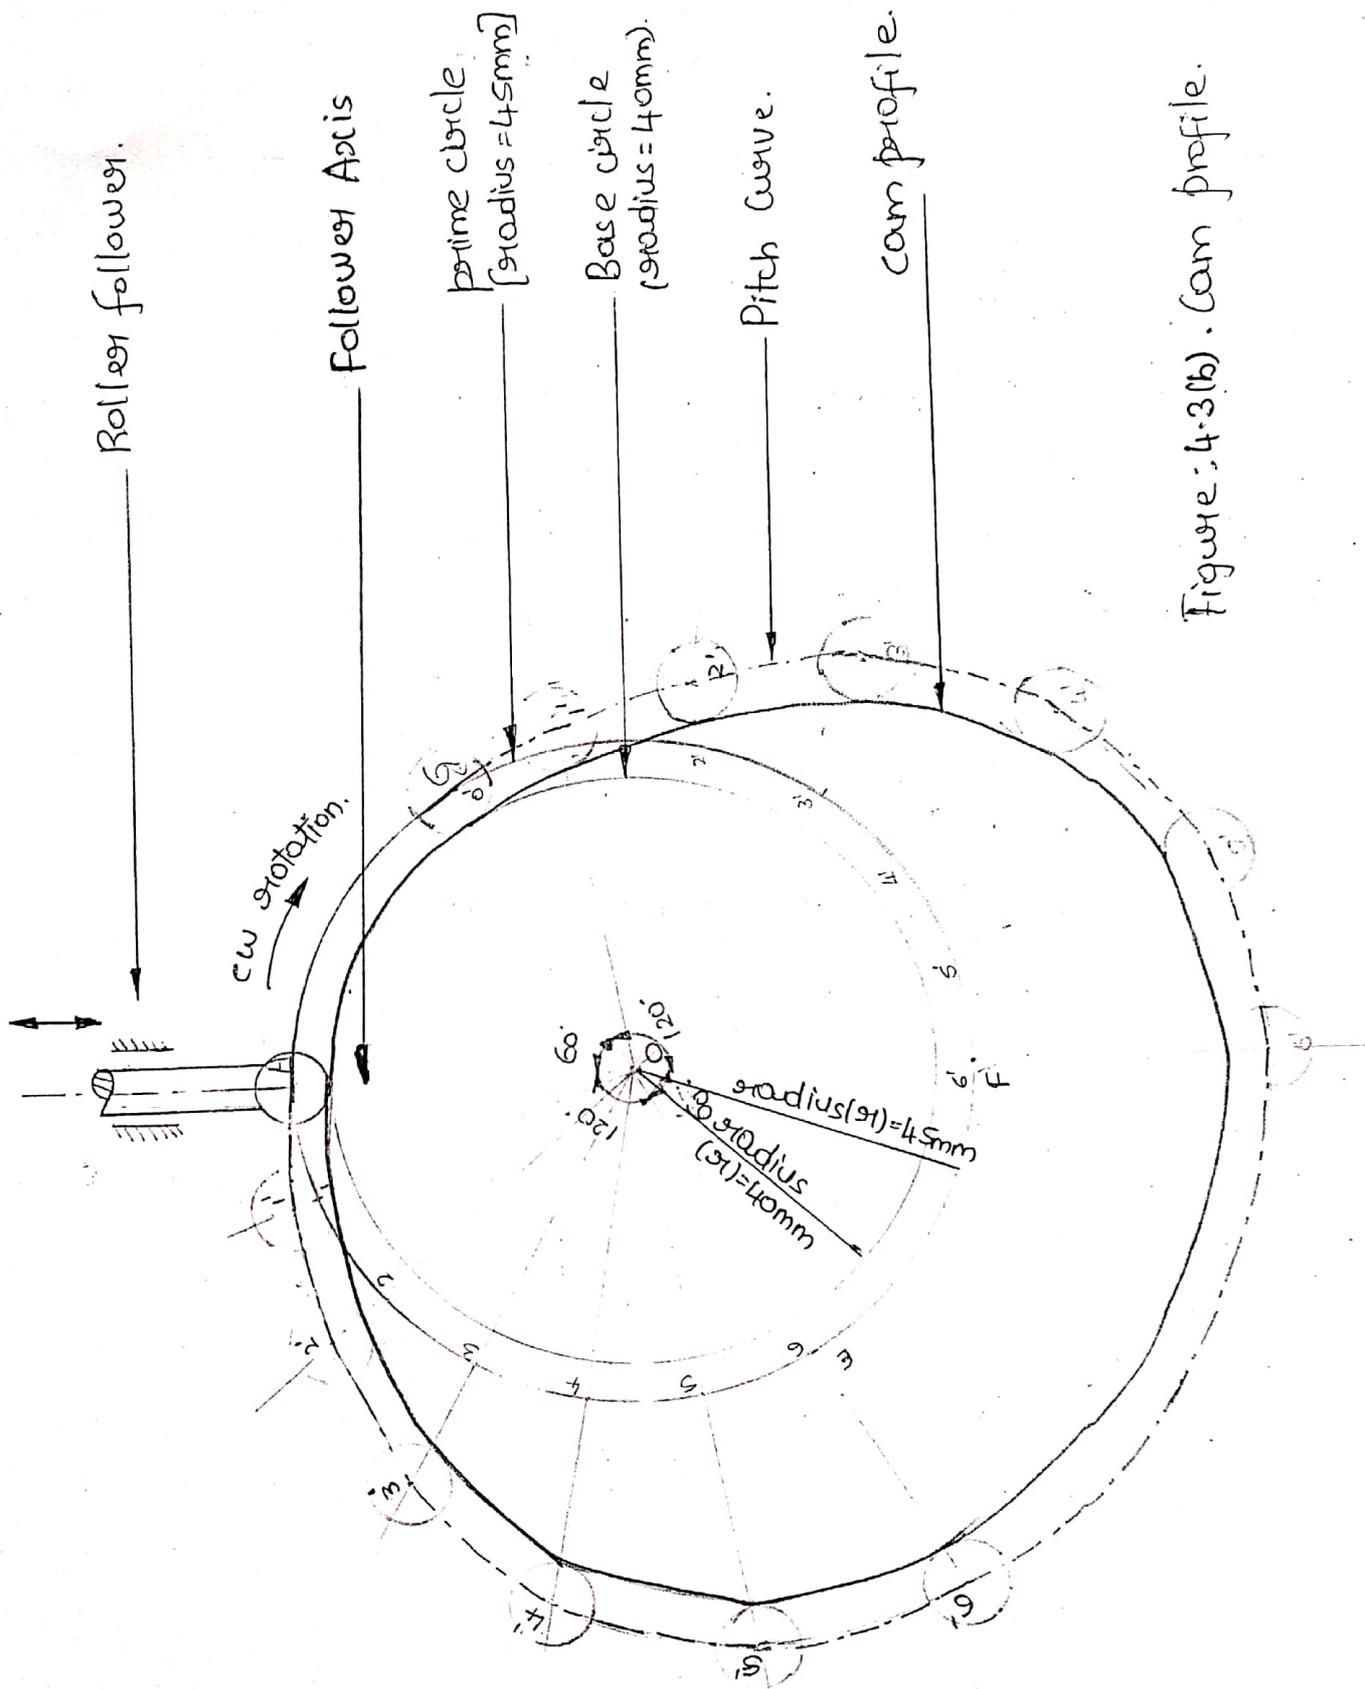

Figure: 4.3(b). Cam profile.
The displacement diagram is drawn as per the procedure given below: Refer fig 4.3(a).
- v) Complete the displacement diagram as shown in figure. 4.3 a.
Cam profile Construction. Figure 4.3 (b).
(i) Firstly draw the displacement diagram for the given data following the same procedure as shown in fig 4.3(a).